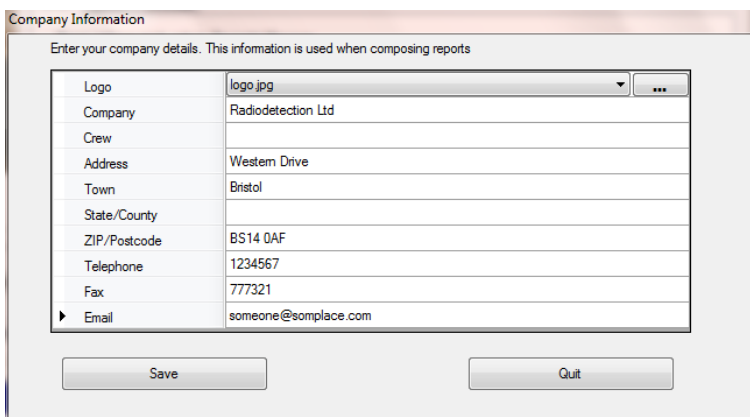

Figure 2.6 Company Information Screen
2. Enter your company details (see Figure 2.6). The information provided will be used to compile reports.